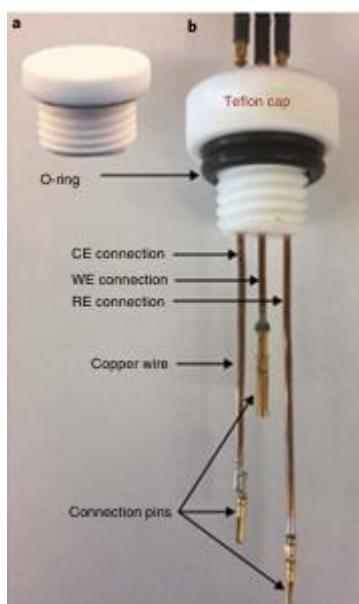

Figure 4: Image showing the arrangement of ECL Teflon cell cap
2.3) ECL Cell cap [Refer Figure 4 of supporting information]